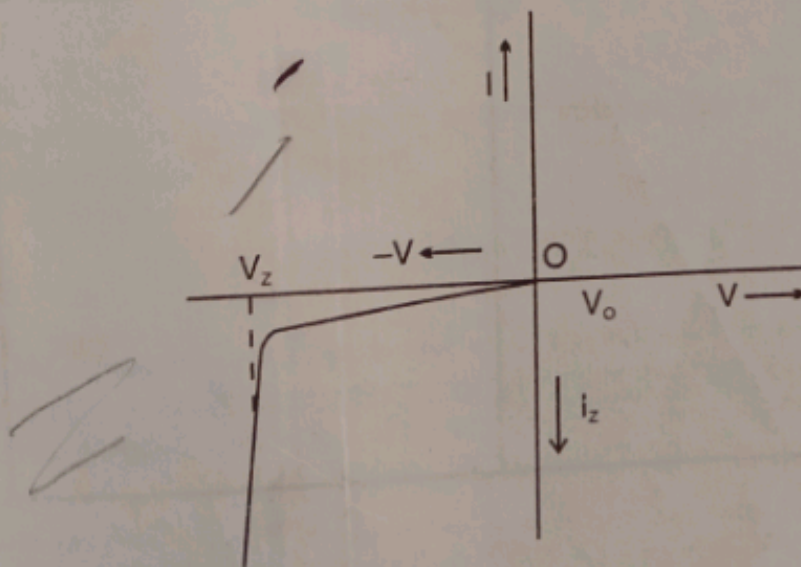

Fig. P-16 VI characteristics of zener diode.
4. Plot the graph between V_Z and I_Z , to obtain V-I characteristics of the zener diode. A typical zener diode characteristics are shown in fig. P-16.